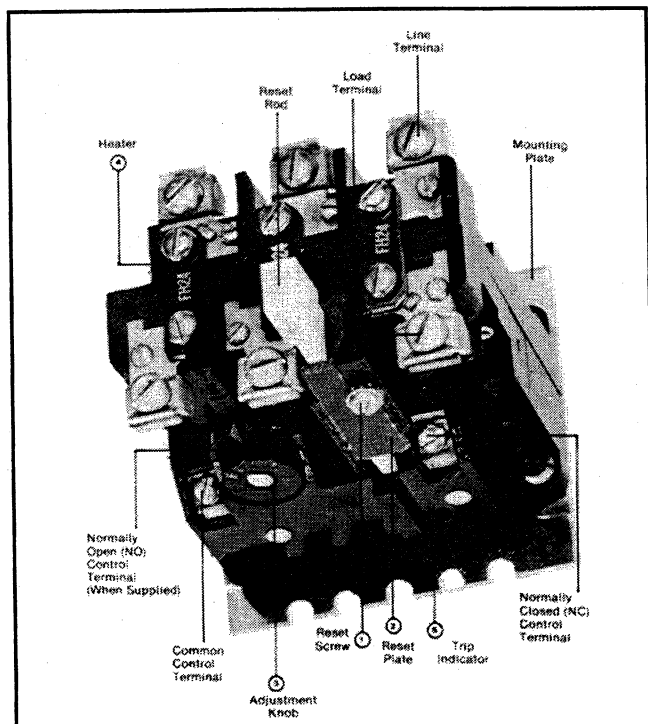

Fig. 1 Size 1 Overload Relay for Panel Mounting
The strip bimetals in the OLR are indirectly heated by the replaceable heater elements (Item 4 in Figure 1) which carry the motor current. Excess heat is generated in these heater elements by an overloaded motor. The heated bimetals deflect to open the normally-closed (NC) contact, thereby opening the coil circuit of a magnetic contactor which disconnects the overloaded motor from the line. After approximately 2 minutes, the relay (if hand reset) may be reset by pressing the reset rod. For relays in the auto position, resetting occurs automatically.
The overload relay is normally furnished set for "HAND" reset operation. The relay may be set for either "HAND" or "AUTO" reset by slightly loosening the reset screw (1), holding the reset plate (2), moving the plate to the proper position marked on the molded case (away from the panel for "Hand" reset and toward the panel for "Auto" reset) and retightening the screw. (See Figure 1.)
The Type A overload relay gives an immediate visible indication of trip. When an overload occurs, which causes the relay to operate, a trip indicator (5) projects out through a small opening at the bottom of the relay. (See Figure 1.) **IMPORTANT:** Do not tamper with this trip indicator as it is an integral part of the calibration, and tampering may cause changes in trip characteristics.